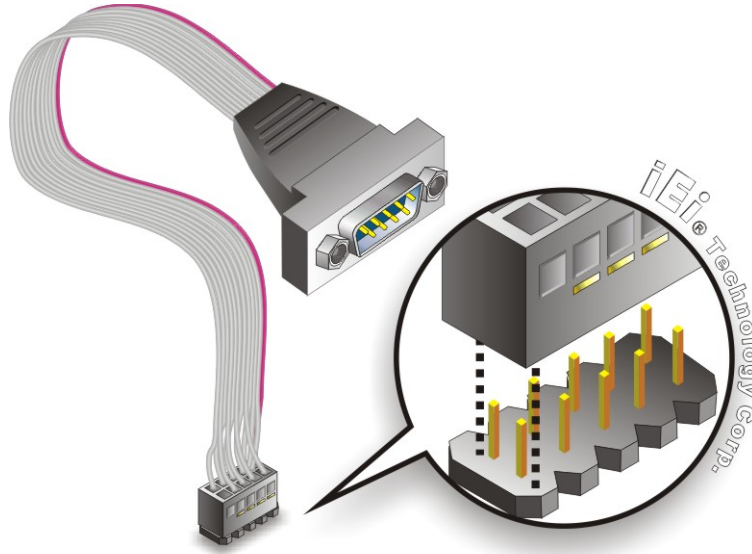

Figure 4-24: Single RS-232 Cable Installation
Step 2: Insert the cable connector. Insert the connector into the serial port box header. See Figure 4-24. A key on the front of the cable connectors ensures the connector can only be installed in one direction.